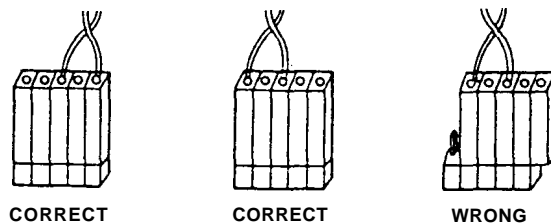

Fig. 2.6 Battery Connection
- Put the new battery in the holder and set the connector. The direction of the connector does not matter. Poor connection will not cause conduction. See Fig. 2.6.